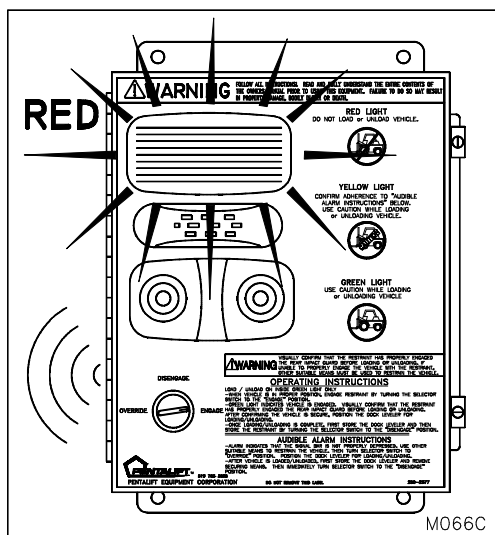
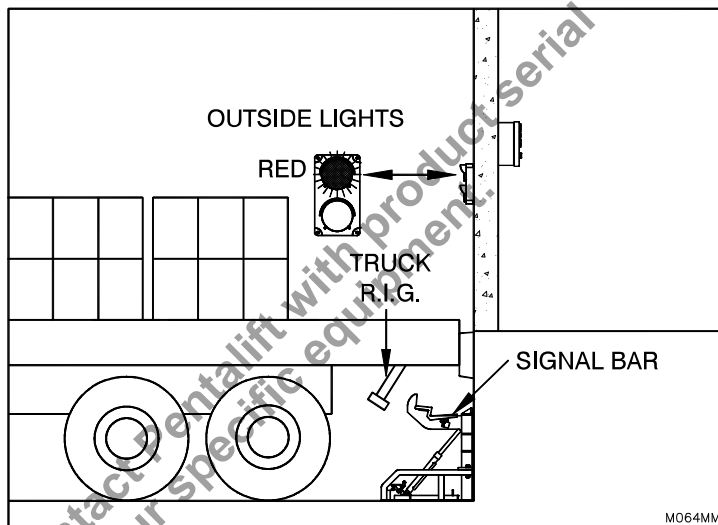

Figure 30: Inside Red Light Remains and Alarm will Sound
Figure 31: Rear Impact Guard Not Secure
3. Turn the selector switch to the "ENGAGE" position (See "Figure 30: Inside Red Light Remains and Alarm will Sound" on page 36). The Restraint hook arms should rotate until the upper rollers are inside the vertical track, then roll straight vertically to the FULLY raised position. The inside red light must be illuminated while the outside red light must be illuminated and the alarm must be sounding. (See "Figure 31: Rear Impact Guard Not Secure" on page 36)